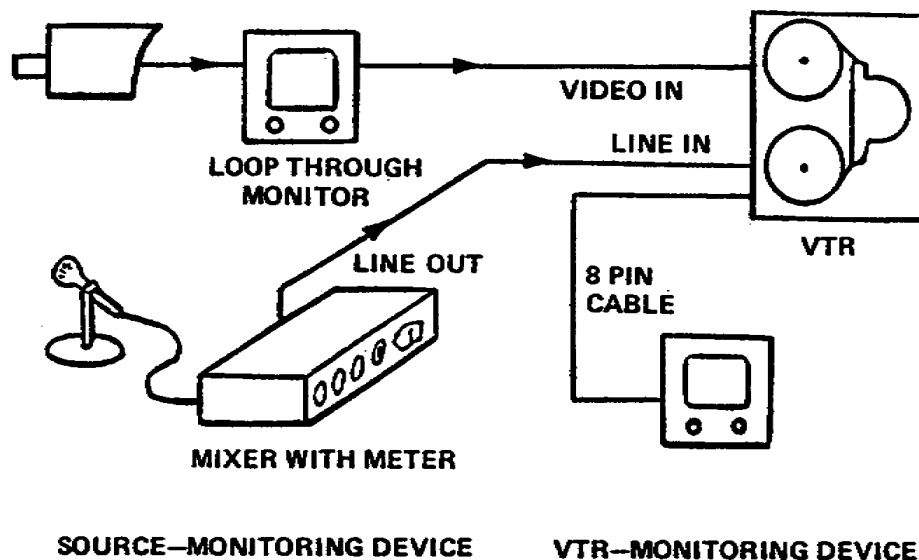

Figure 3-16. Source-monitoring device and VTR-monitoring device
f. Small mixers will be encountered frequently. Most have a line out or a high level output, which will be around 0 level. Both balanced and unbalanced outputs will be found on different models. These should be connected to the line in or aux in of the cassette machine. Not all mixers have a meter or a master level control, so sometimes the exact level out will be in doubt. Again, a test recording is advised in these circumstances (fig 3-16).